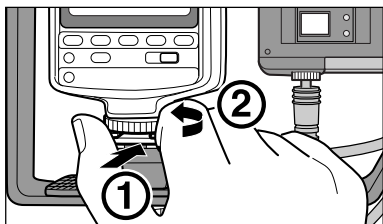

図 4/Figure 4/Abbildung 4/Figure 4/ Figura 4/Figur 4/Figura 4
- Insert the Nikon Speedlight accessory shoe into the flash-bracket attachment shoe ① and rotate the locking ring clockwise ② to fix it in place after choosing a position where the Speedlight does not contact the flash bracket (Figure 4).